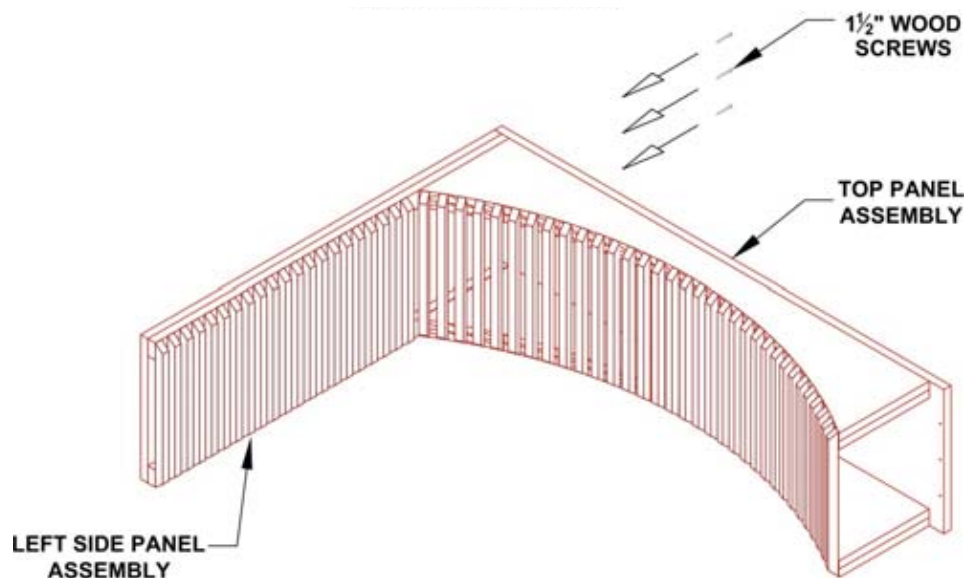

Figure 2
4. Take your top panel and insert (3) screws into the pre-drilled holes. Secure the top to the side panels by sinking each screw completely into the top panel. Carefully tighten, to avoid stripping the holes (**Figure 2**).